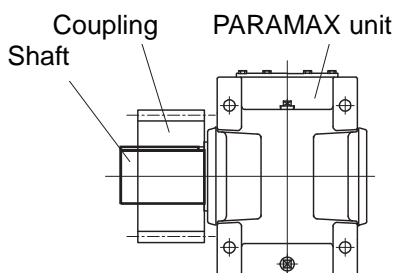

Fig. 10
- Locate the sprocket and gear as close to PARAMAX DRIVE as possible so that the point of application of the load will be closer to the PARAMAX DRIVE'S vertical centerline. (Fig. 10)